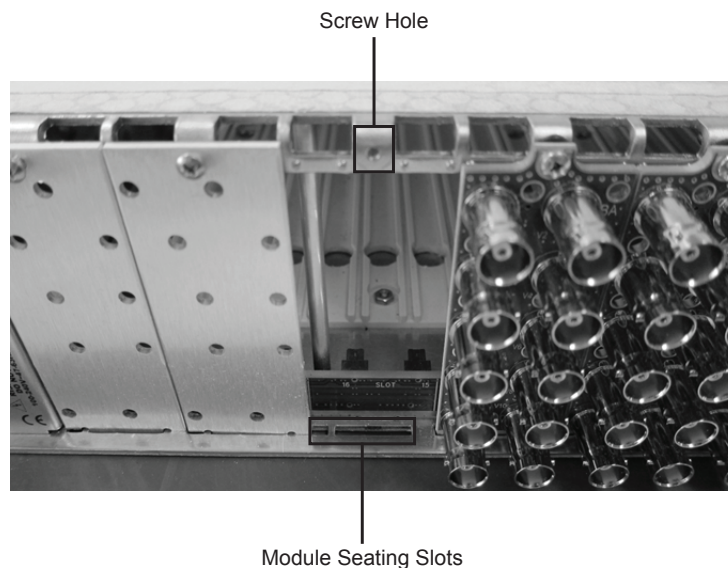

Figure 2.1 Rear Module Installation in an openGear Frame (HDC-8223 not shown)
3. Install the bottom of the Rear Module in the **Module Seating Slot** at the base of the frame’s back plane. (**Figure 2.1**)